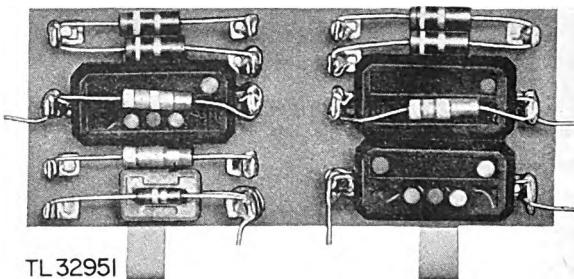
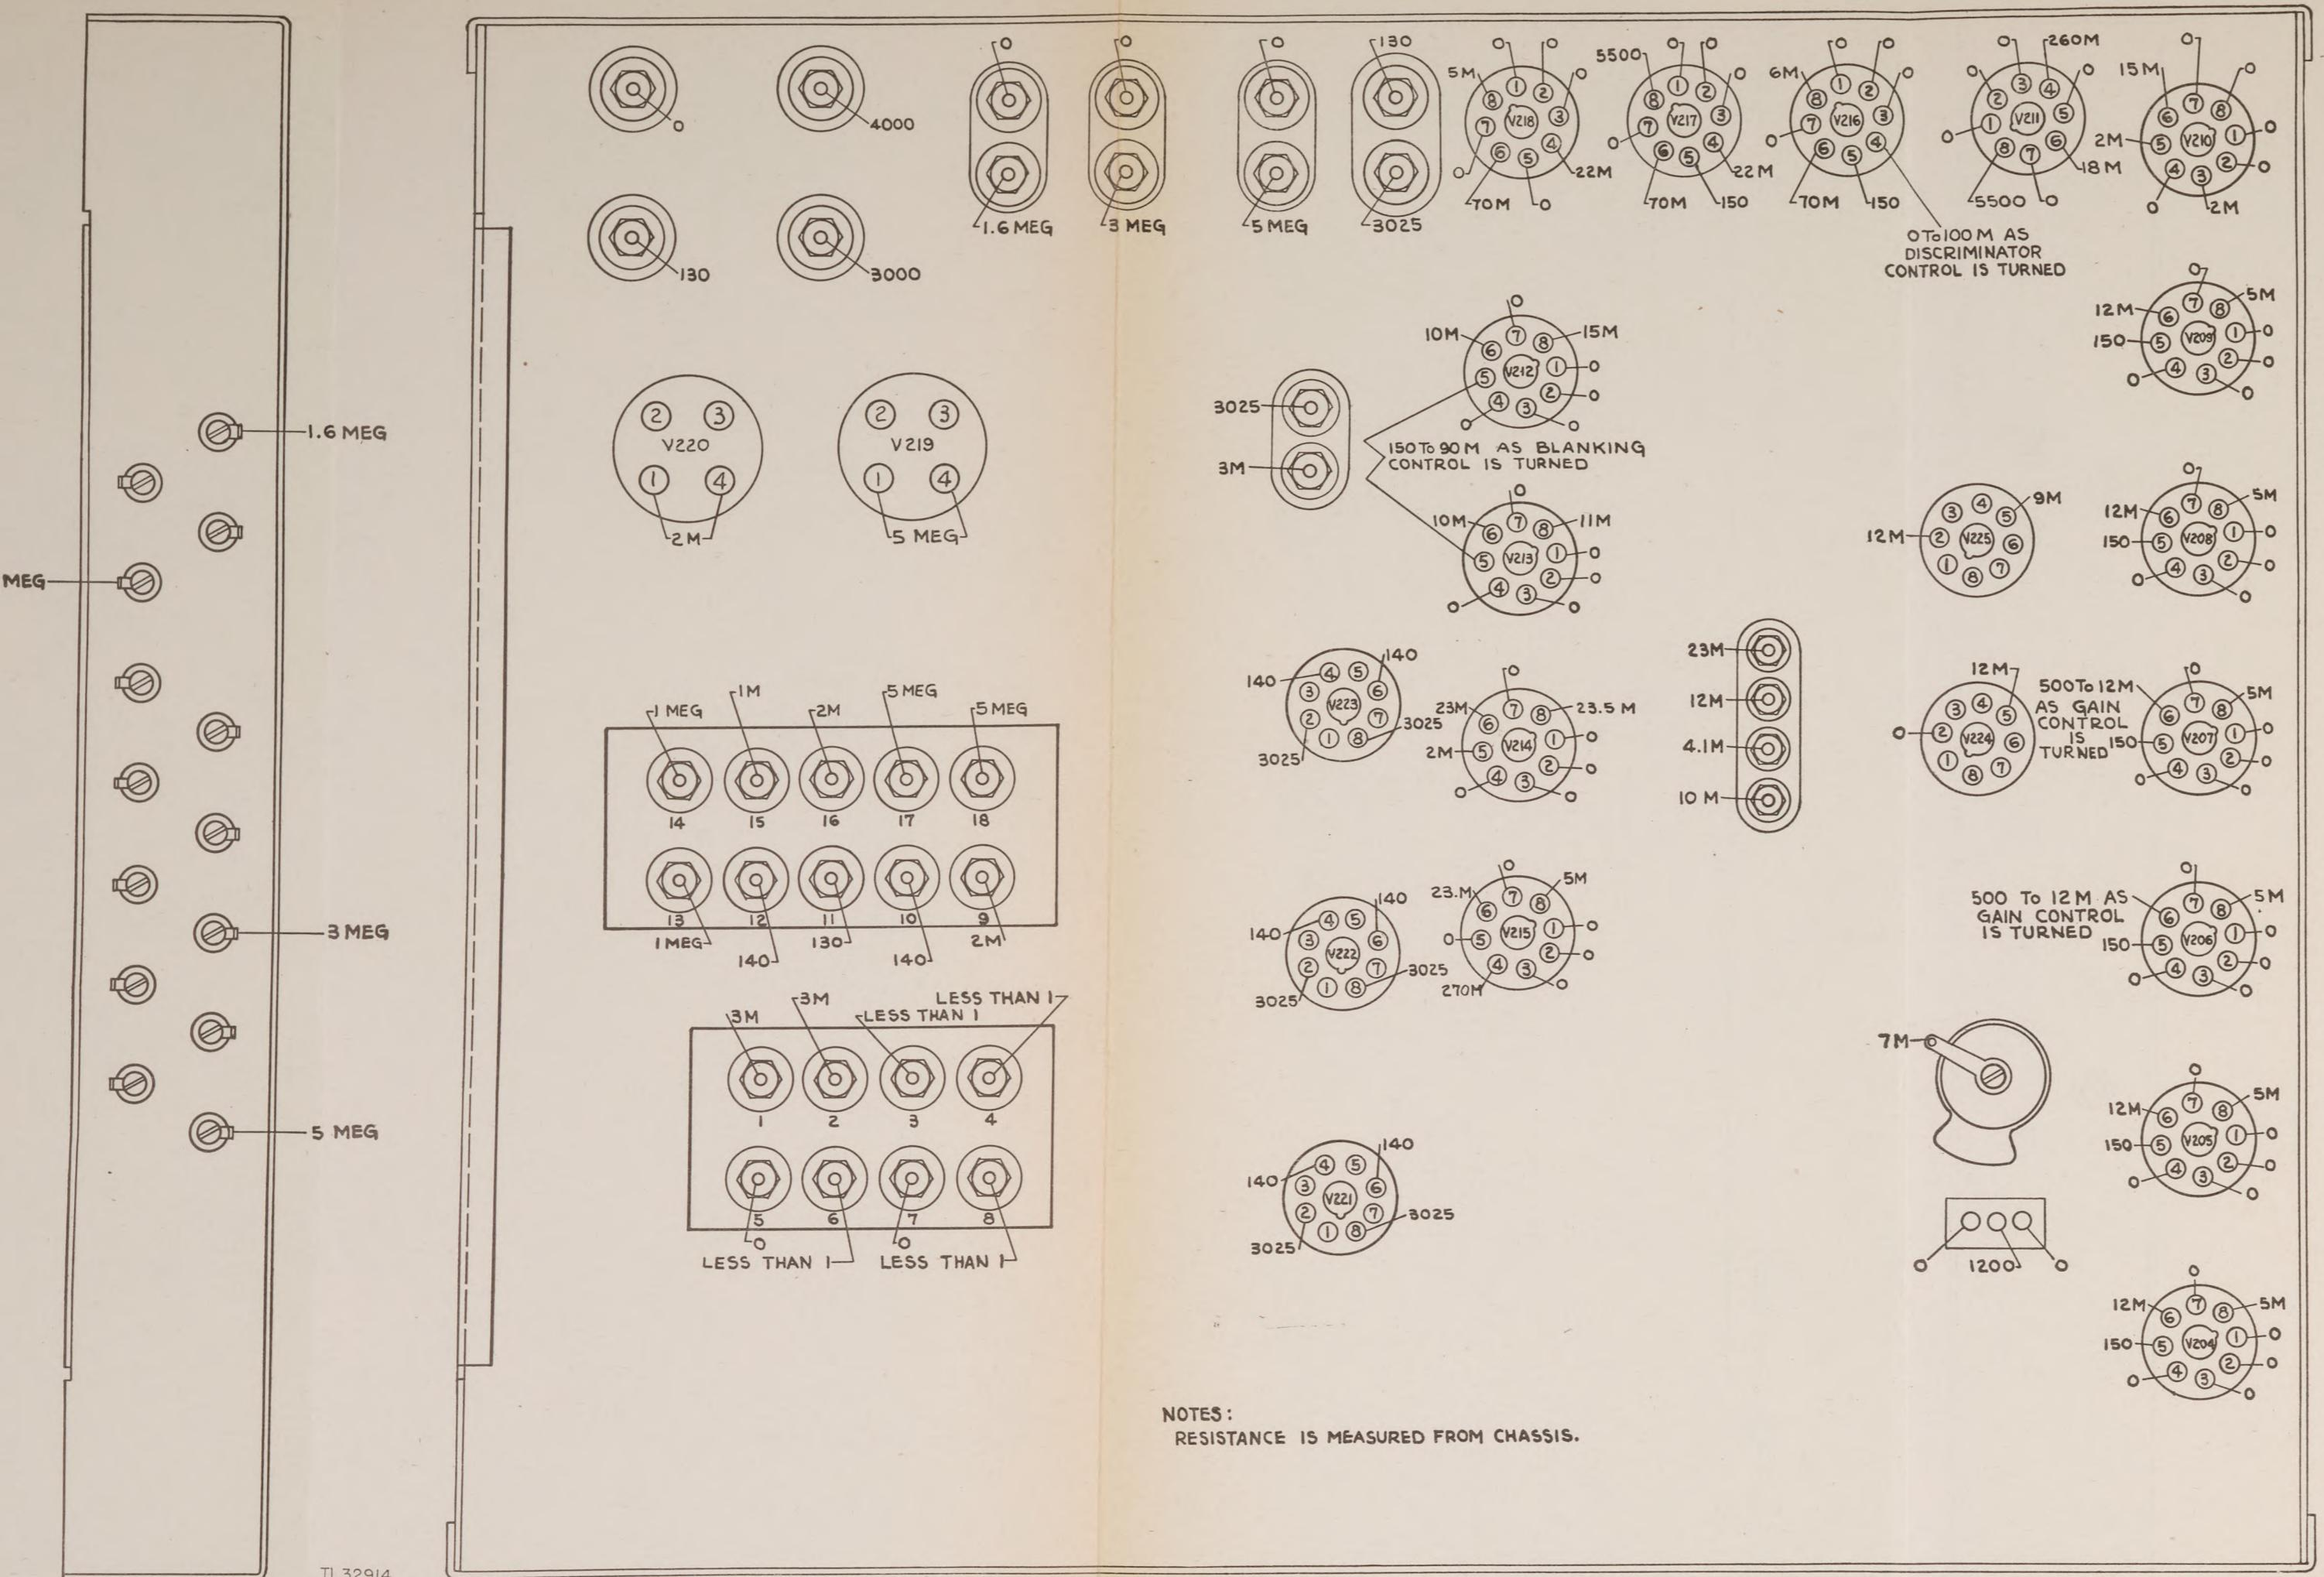

Figure 93. Terminal strip.
Figure 94. Receiver resistance measurements chart.
**48. GENERAL.** Voltage and resistance checks can be used to advantage in isolating and determining faulty operation. The receiver voltage and resistance measurements for normal operation are shown in Figures 94 and 95. EXTREME CARE MUST BE EXERCISED IN TAKING MEASUREMENTS AS HIGH VOLTAGE IS PRESENT IN THIS UNIT.
Make voltage and resistance measurements. Figure 93 shows terminal strips across which typical measurements may be made. Replace tube if these measurements do not agree with the correct values (figs. 94 and 95).
*j. AJ Circuits.* (1) INDICATION. If there is an indication that the AJ circuits are not operating properly, make certain that the set operates properly with the AJ switch SW201 in the OFF position. At this setting, the entire AJ circuit is eliminated from the receiver circuit. If receiver operation is normal at this switch position, set the switch to the #1 position to test the operation of the blanking circuit. With the AJ switch SW201 in the #3 position the discriminator circuit is connected, and in the #2 position, both the blanking circuit and the discriminator circuit are operating in the receiver.
(2) BLANKING CIRCUIT. In the blanking circuit of the AJ circuit, tubes V112, V113, V114 and V115 are employed. If the circuit does not function properly, checking for faulty tubes by removing and replacing them one at a time. Check the AJ BLANKING control on the receiver panel. Make voltage and resistance checks. Refer to figures 94 and 95 for the correct values. Do not attempt to tune the i-f coils in this circuit.
(3) DISCRIMINATOR CIRCUIT. The discriminator circuit employs tubes V216, V217, and V218. Check for faulty operation by removing and replacing one tube at a time. Check the AJ DISCRIMINATOR control located on the panel of the receiver. Make resistance and voltage checks. Refer to figures 94 and 95 for correct values.